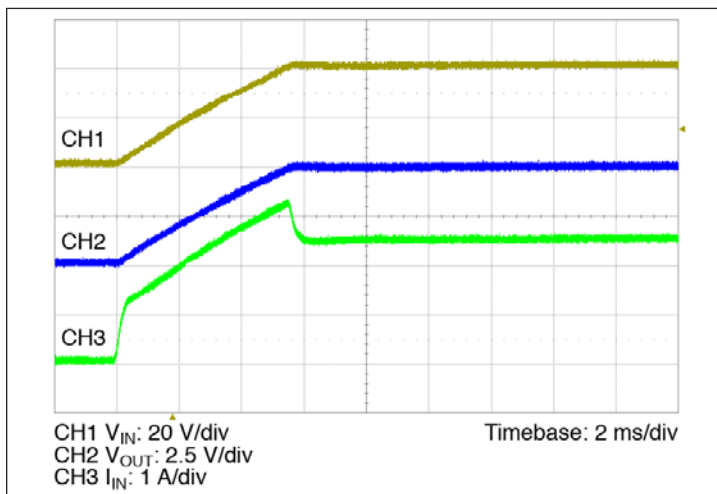

Figure 13 — Start up from application of V_{IN} ; VC pre-applied $C_{OUT} = 2000 \mu\text{F}$
- Normal Operation (VC applied prior to V_{IN}): In this case the controller is active prior to ramping the input. When the input voltage is applied, the VTM output voltage will track the input (See Figure 13). The inrush current is determined by the input voltage rate of rise and output capacitance. If the VC voltage is removed prior to the input reaching 26 V, the VTM module may shut down.